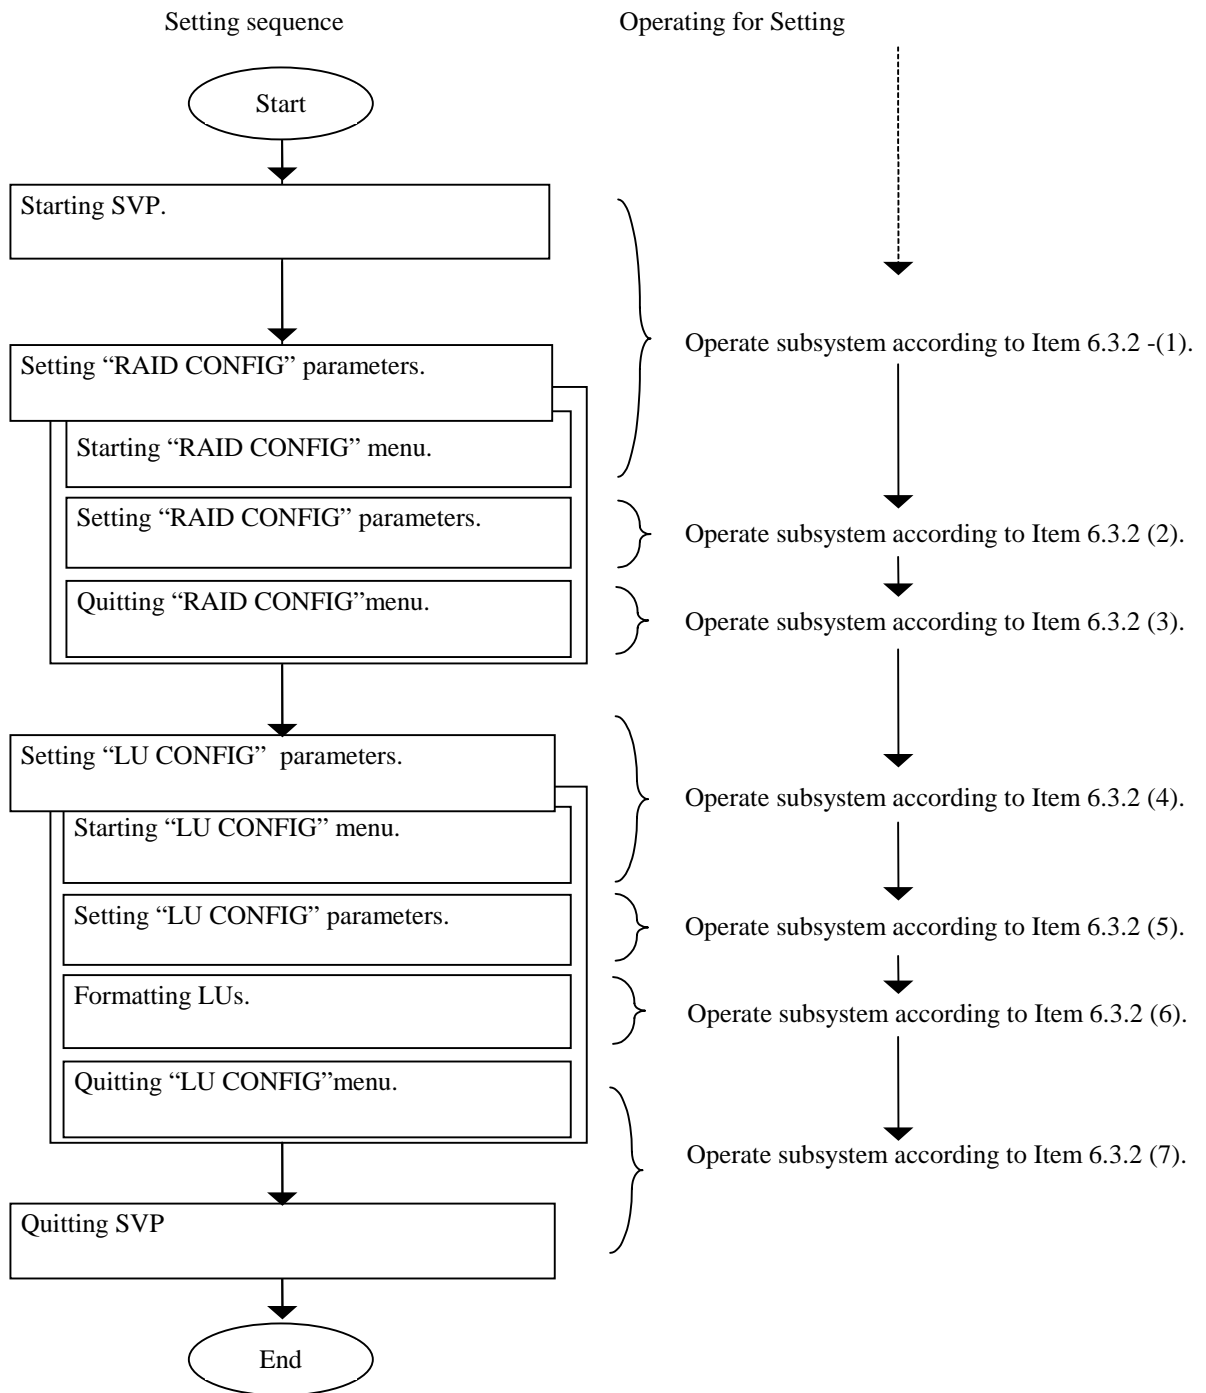

Figure 6.3.1 Sequence of Setting LOGICAL UNITs for Rackmount Type
Figure 6.3.1 shows the sequence of setting LOGICAL UNITs for Rackmount type. Operate subsystem according to Section 6.3.2-(1) through (7).